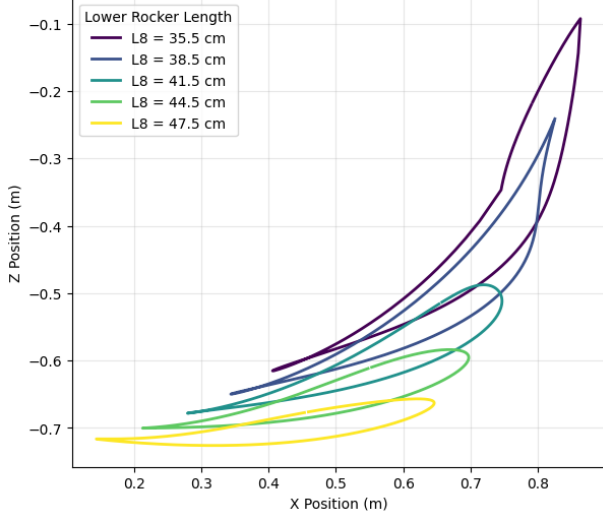

Figure 4: Effect of Lower Rocker (L8) variation.
- **Lower Rocker (L8):** Altering L8 from 35.5 cm to 47.5 cm (Figure 4) drastically changes the spatial footprint. Lengthening this link stretches the curve, influencing the step height and the angle of attack during the pre-swing phase.